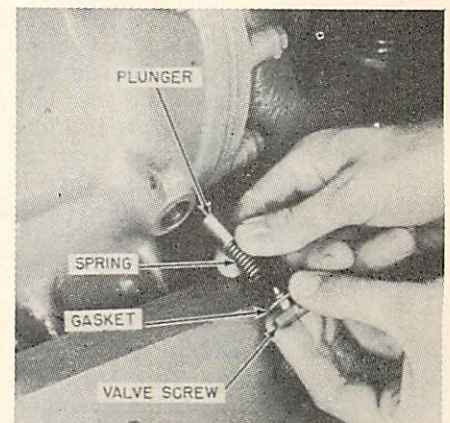

Fig. O66 — View showing main oil gallery relief valve.
88. Oil pressure on all models is controlled by a spring loaded poppet type relief valve in the main oil gallery as shown in Fig. O66. To check engine oil pressure, remove the oil pressure warning sender switch from engine and install a master oil pressure gage. With engine at normal operating temperature, oil pressure should be as follows:
Fig. O65 — Exploded view of gear type oil pump used on Series 1650 diesel engines. Engine oil pressure is controlled by main gallery relief valve shown in Fig. O66. Pump relief valve (items 1 through 4) is set at 42 psi by adjusting screw (2).